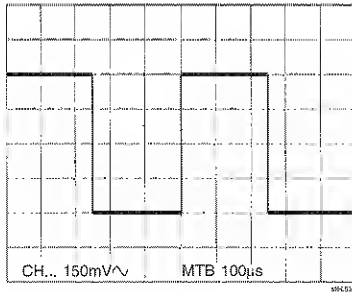

Figure 3.7
- Check for a display as indicated in Fig. 3.7.